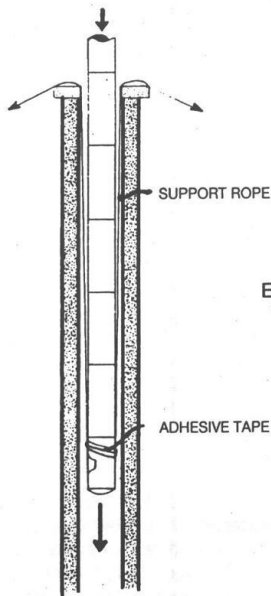

FIGURE 3
4. Drill (3)1/8" (3mm) holes and rivet each joint.
5. From the roof, lower the liner, either partially or completely assembled, into the chimney. Watch for electrical installations nearby. If the liner is too long, the sections can be riveted and lowered into the chimney one by one, using a support rope (see figure 3).